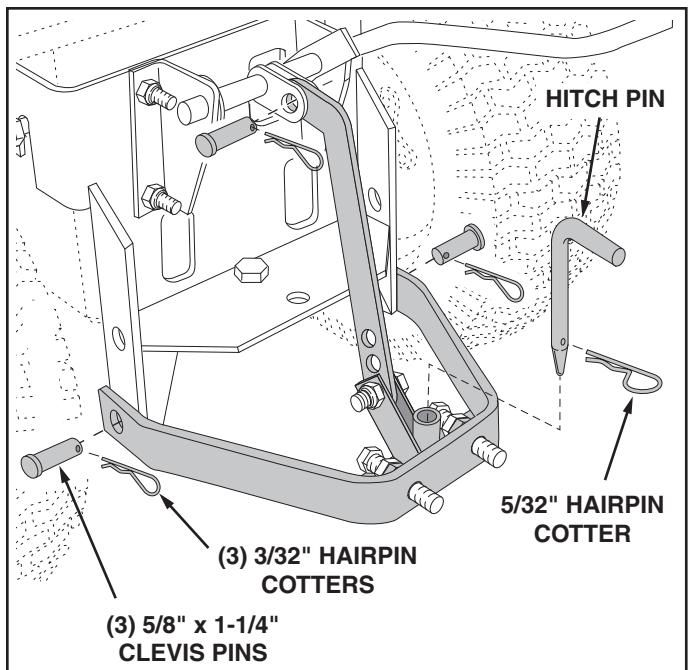

FIGURE 8
13. Attach the Sleeve Hitch Lift Assembly to the Sleeve Hitch Frame using three 5/8" x 1-1/4" clevis pins and 3/32" hairpin coppers as shown in Figure 8.
14. Install the hitch pin in the Sleeve Hitch and secure it with a 5/32" hair cotter pin. See Figure 8.